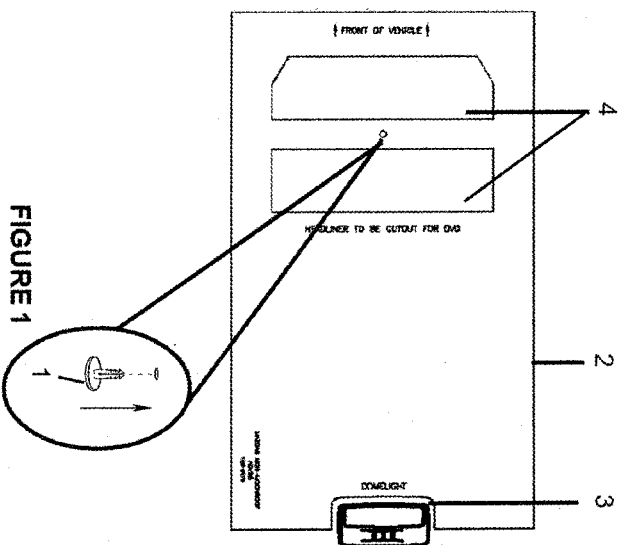

FIGURE 1
- 1.) REMOVE THE HEADLINER PUSH PIN (1) FORWARD OF THE REAR DOMELIGHT (3) ALIGN THE TEMPLATE (2) WITH THE FRONT OF THE REAR DOMELIGHT (3) AND REPLACE THE PUSH PIN (1). USE STRIPS OF MASKING TAPE TO HOLD THE TEMPLATE IN POSITION. CAREFULLY TRACE THE TWO DVD CUTOUT AREAS (4) ON THE HEADLINER. REMOVE ALL TAPE, THE PUSH PIN (1) AND REMOVE THE TEMPLATE (2). (SEE FIGURE 1)